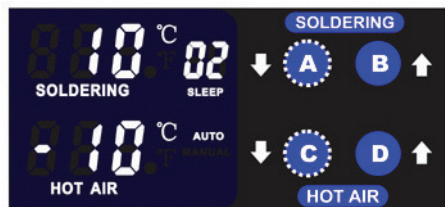

Figure 4
1. Press and hold both buttons labeled A and C in figure 4 for four seconds.